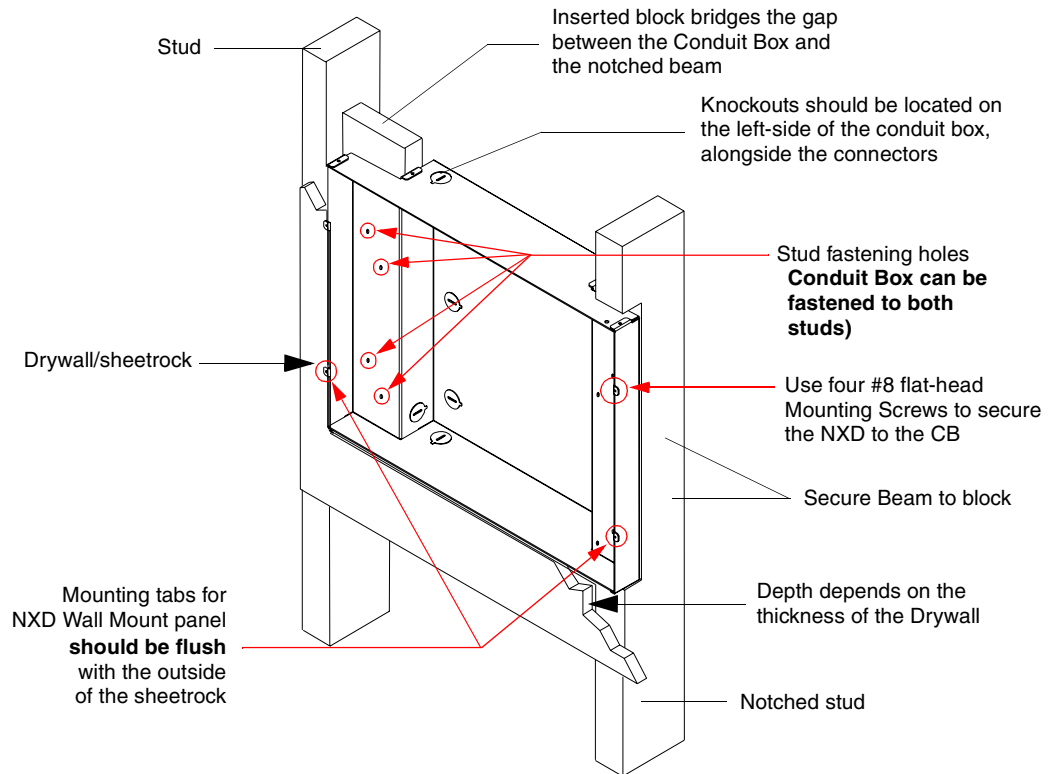

FIG. 56 Screw locations for conduit box attachment in a pre-wall installation
6. Fasten the CB-TP17 to the **Notched stud/beam** through the stud fastening holes, located on the inside of the conduit box (FIG. 56), by using either nails or screws.
8. Secure the perpendicular block to the **Non-Notched stud/beam** (FIG. 56) by using either nails or screws.
9. Fasten the CB-TP17 to the **block** through the stud fastening holes, located on the inside of the Conduit Box (FIG. 56), by using either nails or screws.
10. Remove any necessary wiring knockouts from the (optional) conduit box (CB-TP17) (FIG. 56) where the necessary cables are threaded through for connection to the touch panel.